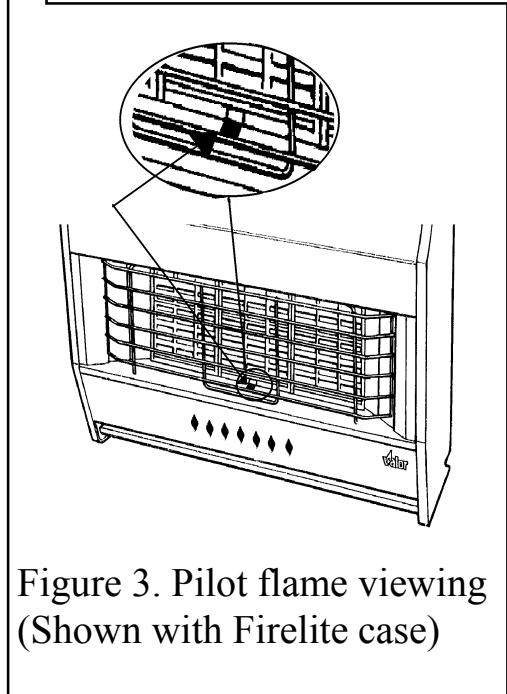

Figure 3. Pilot flame viewing
- Depress the control knob and turn anticlockwise towards the 1/IGN position. A spark should be generated at the pilot while turning. The spark should ignite the pilot. **If it does not**, keeping the knob depressed, continue to turn the knob anticlockwise. A **second** spark should ignite the pilot. The pilot flame can be seen through the opening immediately below the centre radiant – See figure 3.
- *While keeping the knob depressed, light the pilot by inserting a long match or taper into the pilot viewing opening (See figure 3).*